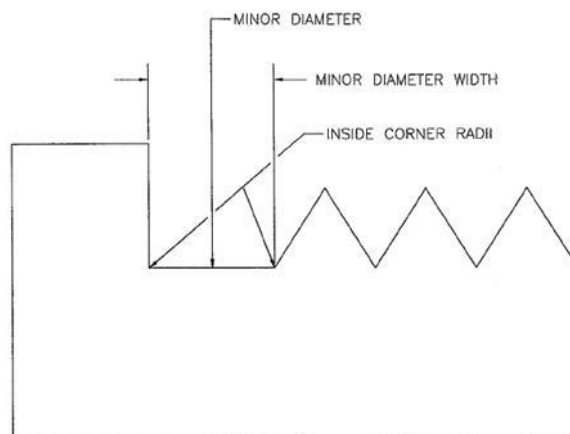

Figure 2 External Thread Dimensions
- External Threads (see Figure 2):